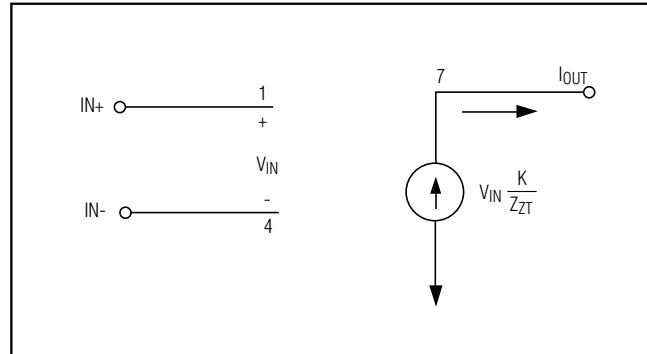

Figure 1. Operational Mode
The output is essentially a voltage-controlled current source as shown in Figure 1. The MAX9547 output is a current proportional to the differential input voltage, and inversely proportional to the impedance of the user-selected transconductance network, Z_{ZT}. The current output provides inherent short-circuit protection for the output terminal. A differential input voltage applied to the input terminals causes current to flow in the transconductance element (Z_{ZT}), which is equal to V_{IN} / Z_{ZT}. This current in the transconductance element is multiplied by the preset current gain (K) and appears on the output terminal as a current equal to (K) × (V_{IN} / Z_{ZT}). This current flows through the load impedance to produce an output voltage according to the following equation: